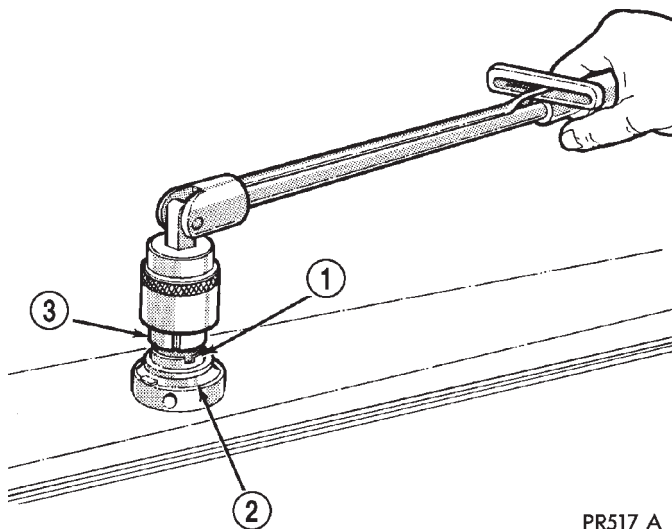

Fig. 14 Antenna Cap Nut and Adapter Remove/Install - Typical
(7) Remove the antenna cap nut using an antenna nut wrench (Special Tool C-4816) (Fig. 14).